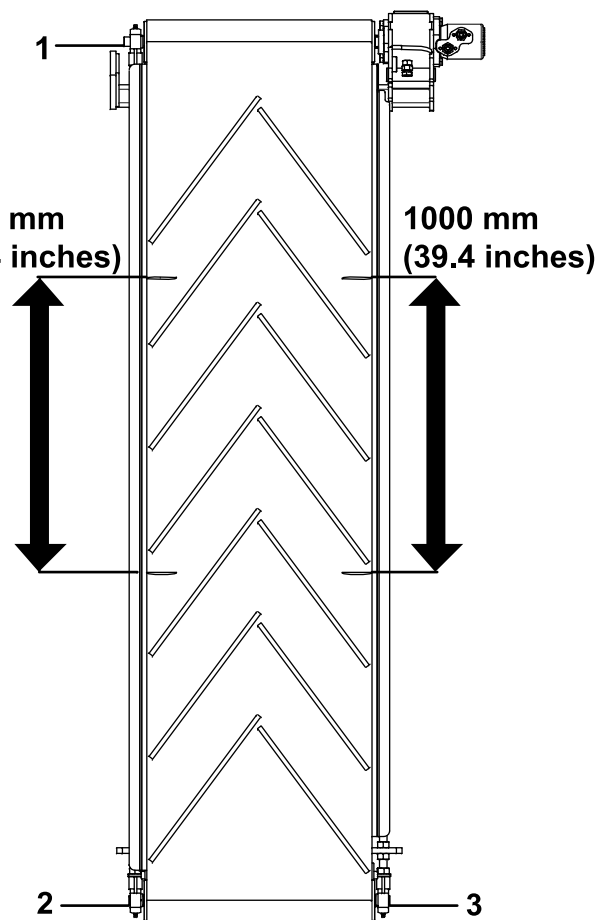

Figure 32
3. Mark both sides of the belt with 2 measurement marks a distance of 1000 mm (39-13/32 inch) apart; refer to Figure 32.